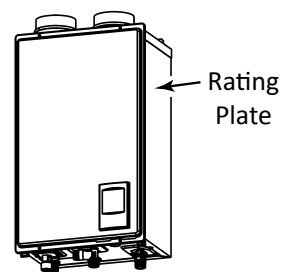

Figure 1.
4. Check the rating plate for the correct GAS TYPE, GAS PRESSURE, WATER PRESSURE and ELECTRIC RATING. See Figure 1. **NOTE:** If this unit does not match your requirements, do not install.